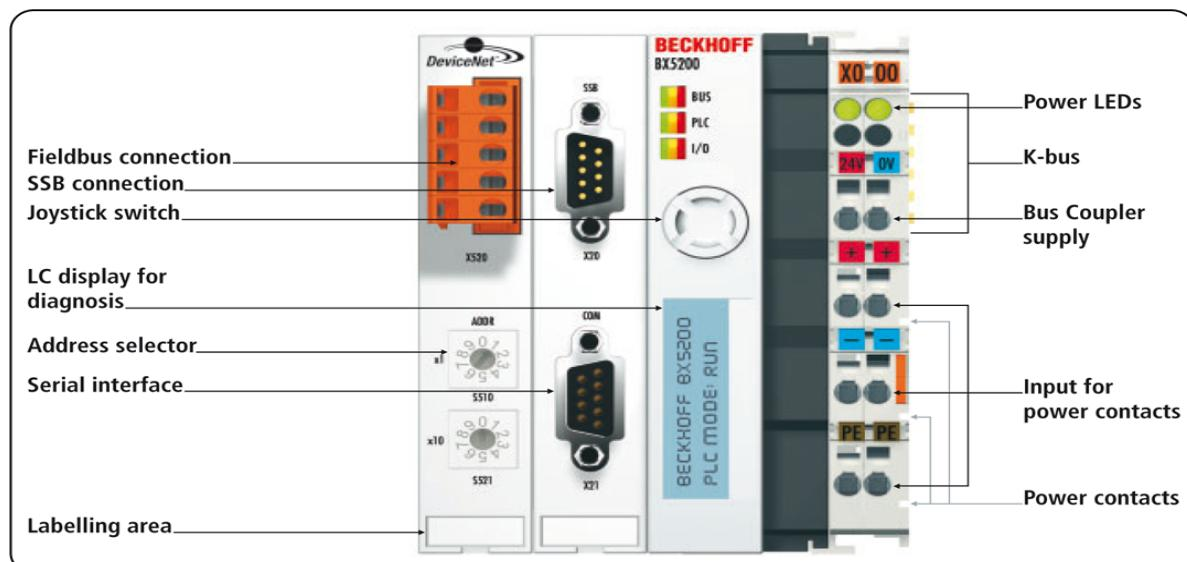

fig. 3.1
- Added I/O Modules, powered via power contacts ("Power contacts", in fig. 3.1).
- Field bus interface ("Fieldbus connection", in fig. 3.1).